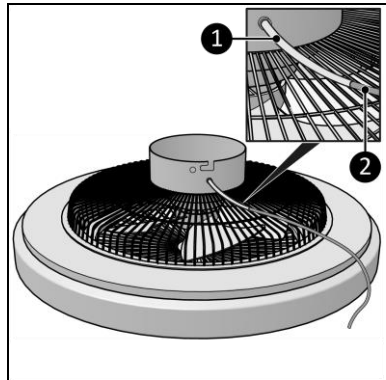

Figure 7
- Place the end of the extension cord (Figure 7, pos. 2) through the protection sleeve, (Figure 7, pos. 1) through the hole of the fan base.